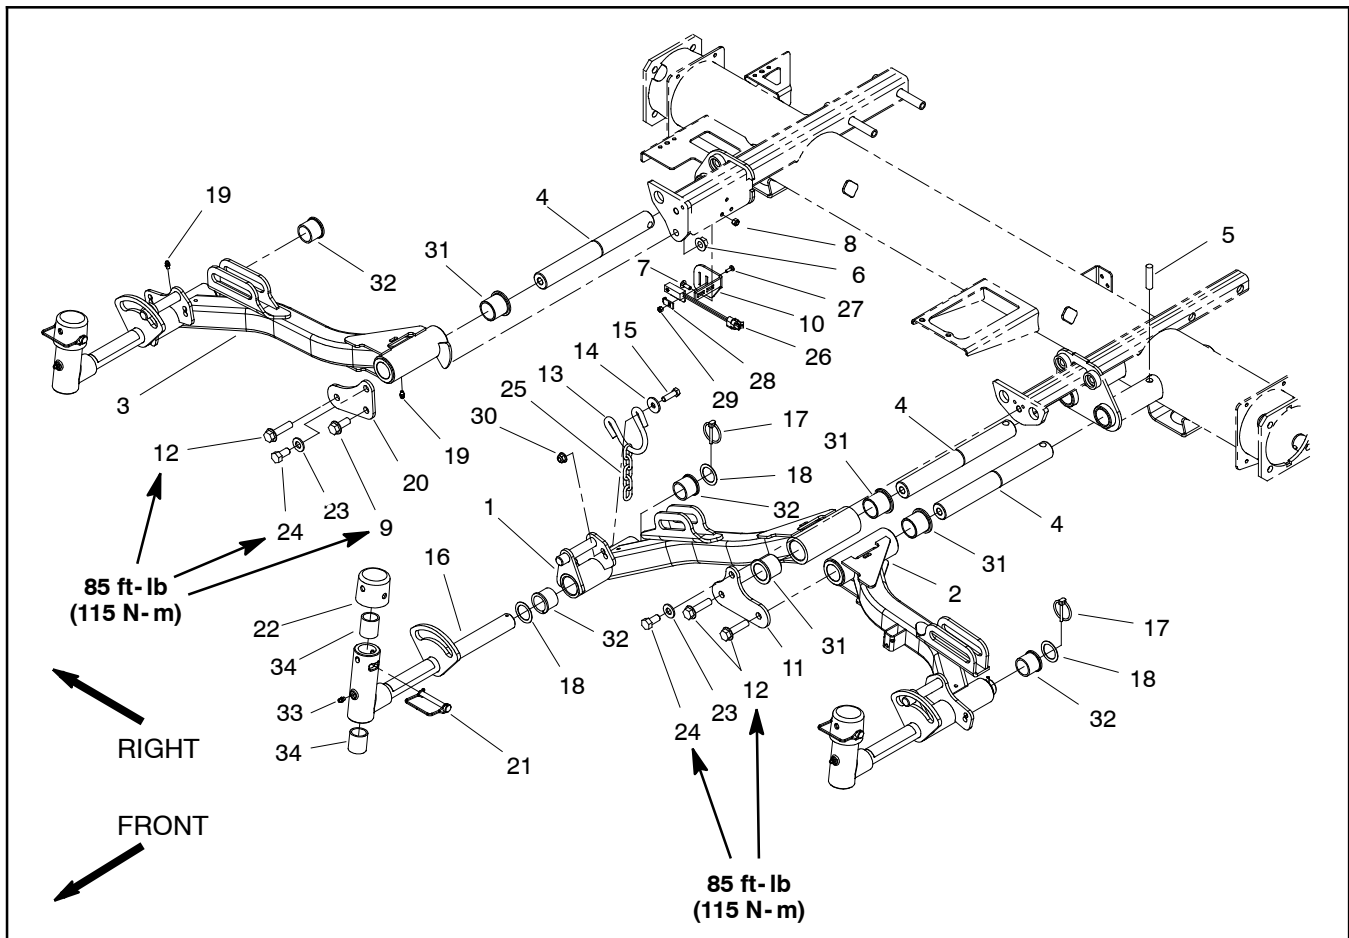
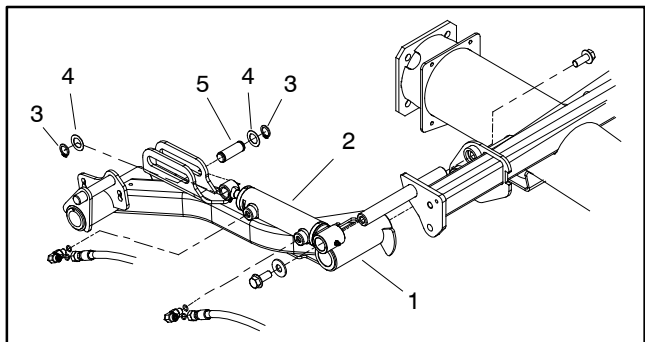
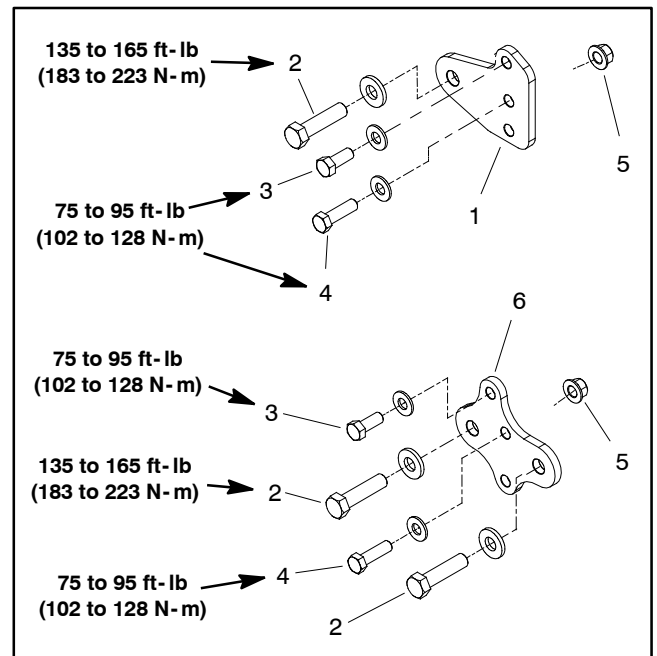

Figure 17
Figure 18
Figure 19
Removal (Fig. 17)
3. Remove one retaining ring (Fig. 18 item 3) and thrust washer (Fig. 18 item 4) from the cylinder pin (Fig. 18 item 5) that secures lift cylinder to lift arm. Pull cylinder pin from the lift cylinder and lift arm. Locate and retrieve second thrust washer.
5. Remove lynch pin (item 17) and slide pivot yoke assembly from lift arm. Locate and retrieve two (2) thrust washers (item 18).
6. Remove fasteners that secure bridge plate to machine. The bridge plates on machines with serial numbers below 310000000 are secured with three (3) fasteners as shown in Fig. 17. On machines with serial numbers above 310000000, the bridge plates are secured with fasteners as shown in Fig. 19.
Installation (Fig. 17)
1. Slide front lift arm onto pivot shaft. Secure lift arm with bridge plate. Apply medium strength threadlocker to threads of screws before installation. Tighten screws that secure bridge plate to torque values identified in Fig. 17 or 19.
2. Position thrust washer (item 18) onto pivot yoke shaft and then slide pivot yoke into lift arm bushings. Place second thrust washer on pivot yoke shaft and secure with lynch pin (item 17).
3. Align lift cylinder to lift arm mounting slot (Fig. 18). Slide cylinder pin (Fig. 18 item 5) with retaining ring (Fig. 18 item 3) and thrust washer (Fig. 18 item 4) through the lift cylinder and lift arm. Install second thrust washer on pin and secure with second retaining ring.